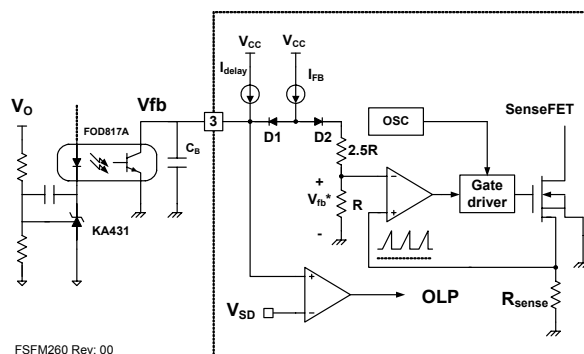

Figure 17. Pulse Width Modulation (PWM) Circuit
2. Feedback Control: FFSM260/261/300 employs current-mode control, as shown in Figure 17. An optocoupler (such as the FOD817A) and shunt regulator (such as the KA431) are typically used to implement the feedback network. Comparing the feedback voltage with the voltage across the R_{SENSE} resistor makes it possible to control the switching duty cycle. When the reference pin voltage of the shunt regulator exceeds the internal reference voltage of 2.5V, the opto coupler LED current increases, pulling down the feedback voltage and reducing the duty cycle. This typically occurs when the input voltage is increased or the output load is decreased.
2.1 Pulse-by-Pulse Current Limit: Because current-mode control is employed, the peak current through the SenseFET is determined by the inverting input of the PWM comparator (V_{FB}^*), as shown in Figure 17. When the current through the opto-transistor is zero and the current limit pin (#4) is left floating, the feedback current source (I_{FB}) of 0.9mA flows only through the internal resistor ($R+2.5R=2.8k$). In this case, the cathode voltage of diode D2 and the peak drain current have maximum